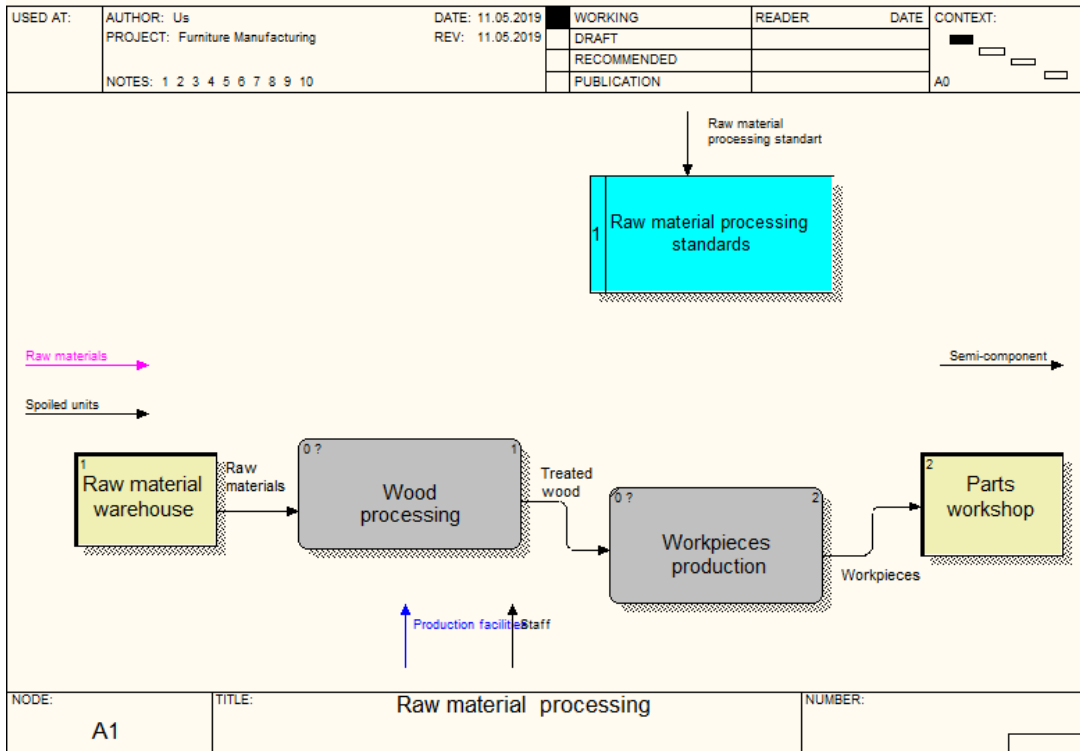

Fig. 5.10. A DFD Diagram
1. Using the button  on the tool bar, enter the "Regulatory documentation" (“Raw material processing standards”) data store (fig. 5.10).